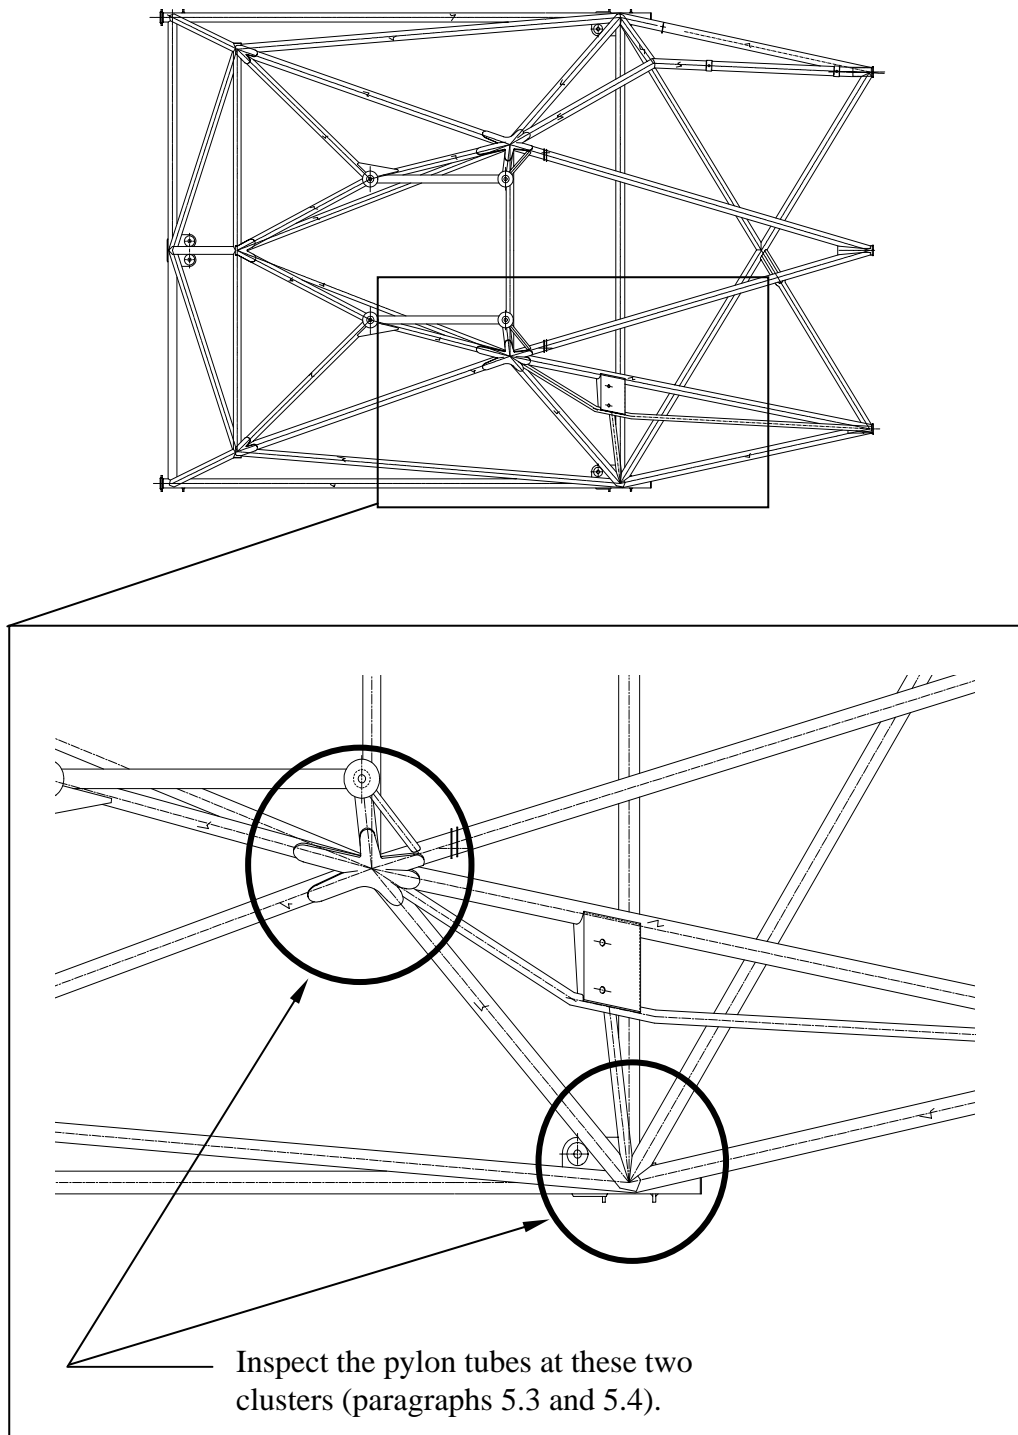

Figure 2. Pylon Structure Inspection Areas – View Looking Down
- 5.3 Using a light and mirror, inspect the pylon tubes at the aft, left transmission mount shown in Figure 2. Pay particular attention to the area noted. In both cases, the cracks started at the bottom of the tube.
- 5.4 Open the left engine door and inspect the cluster at the aft, left lower pylon corner shown in Figure 2.